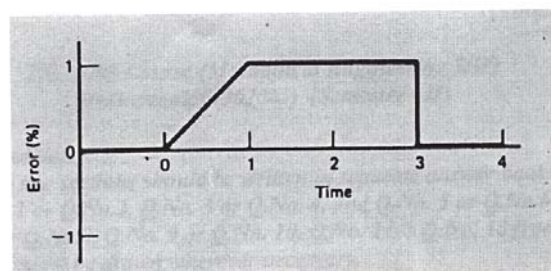

Figure Q9 (a)
- Q9) a) Given the error of Figure Q9 (a), plot a graph of a P controller output as a function of time.  $K_p = 10$  and  $P_0(0) = 15\%$ . [10]